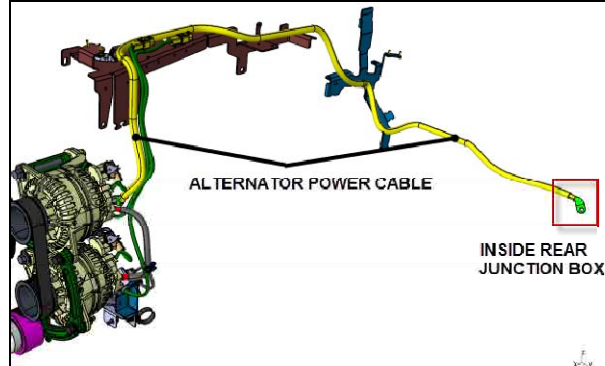
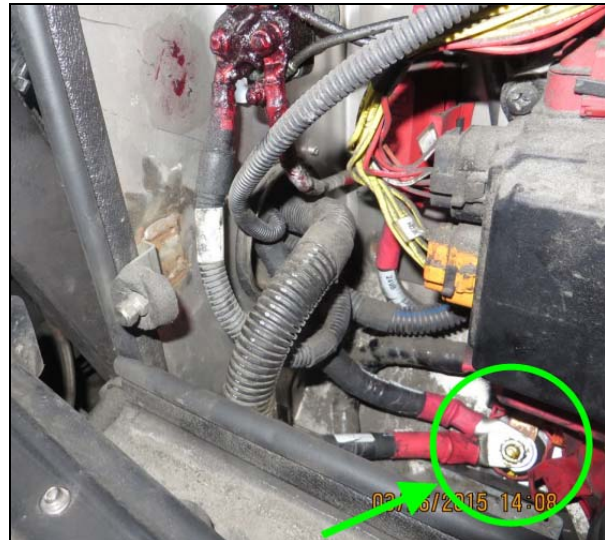
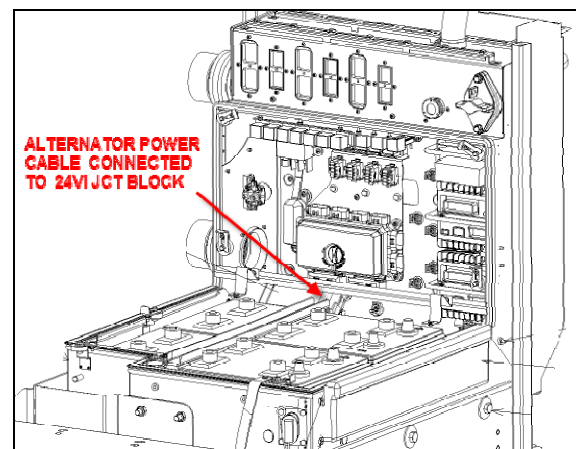

FIGURE 5
FIGURE 6: POWER CABLE 102A CONNECTED TO BUSSMAN JUNCTION BLOCK - **TORQUE 10 lbf-ft.** APPLY YELLOW TORQUE SEAL AND THEN APPLY COLOR GUARD RUBBER COATING
FIGURE 7
8. Replace the existing power cable (circuit 102A) (FIGURE 5) with new power cable #069222. This cable is routed from the upper alternator B1+ stud terminal up to the 24VI junction block in the rear junction box (FIGURE 6, FIGURE 7, FIGURE 8).